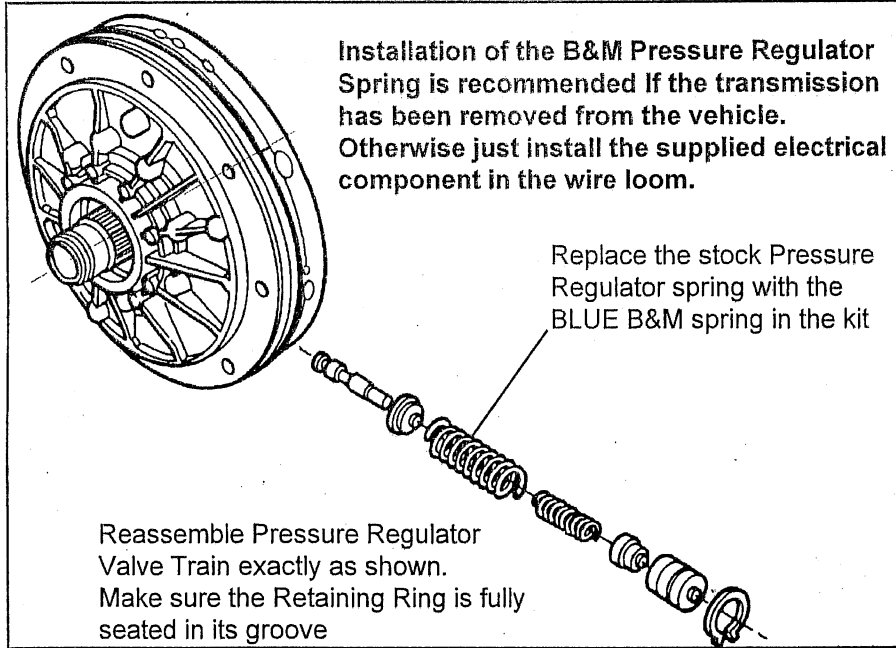

Figure 9. Pressure Regulator
Step 11. If you are installing this kit while the transmission is removed from the vehicle then install the BLUE B&M Pressure Regulator Spring in the Oil Pump as shown in Figure 9. If you install this spring in the pump you may also install the supplied electrical component in the wire loom. Installing both the spring and the electrical component will increase part throttle shift feel.